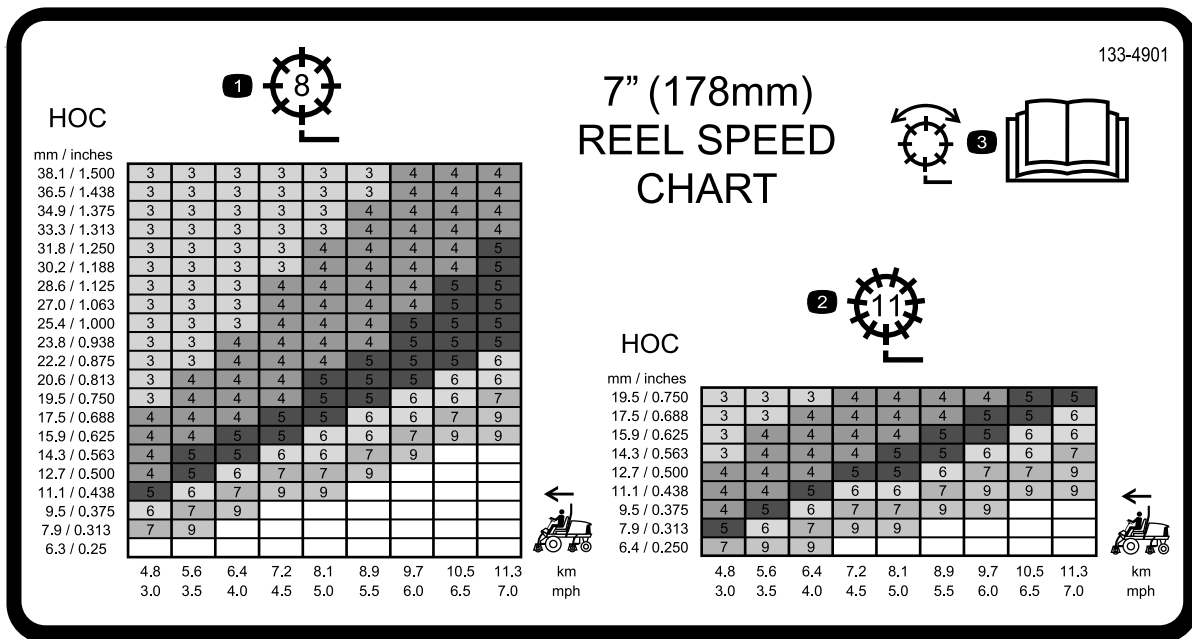

Figure 31
3. Use the graph on the reel speed chart decals (Figure 30 and Figure 31), to determine the proper reel speed setting.